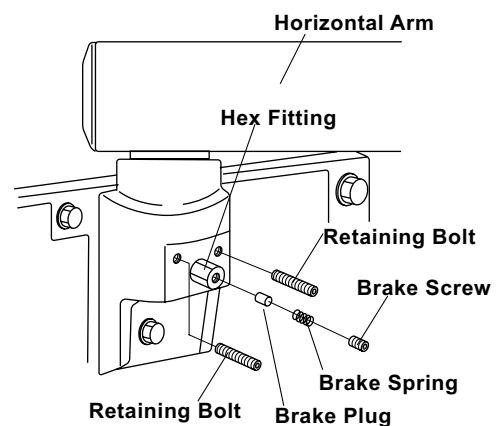

Fig.3-6 Horizontal Arm
2. Insert two retaining bolts into the upper threaded holes of the arm mounting bracket and tighten securely with a Allen wrench. (Fig.3-6)
3. Insert brake plug, brake spring and brake screw (M6 x 6 mm) into the threaded hole of the hex fitting located on the arm mounting bracket. DO NOT FULLY TIGHTEN. (Fig.3-6)